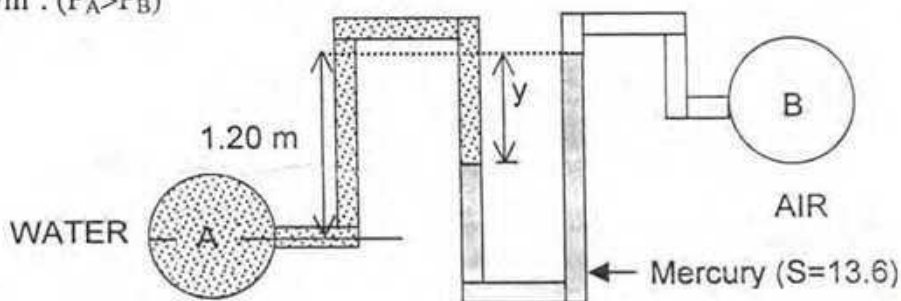

Figure 2
- b. Compute "y" in Figure 2 if the pressure differences between points A and B is $135.38 \text{ kN}/\text{m}^2$. ($P_A > P_B$) 7